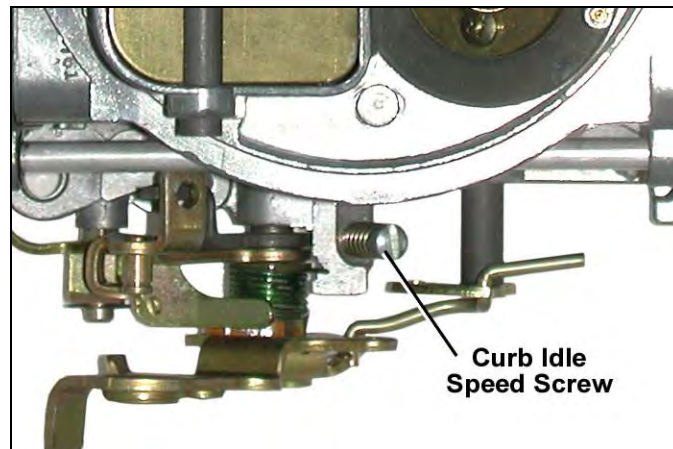

Figure 14
3. Now that the idle mixture is set, it may be necessary to go back and reset the idle speed using the curb idle speed screw, as shown in Figure 14.